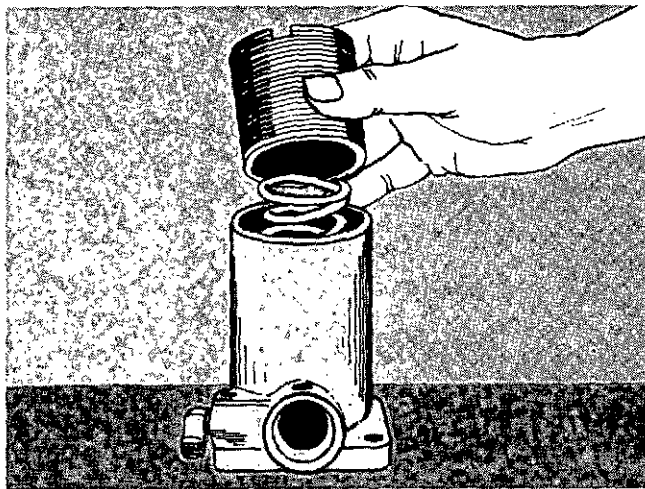

Fig. 4-32. Install The Spring Retainer.
14. With the notched end of the retainer up, install the spring retainer in the housing, Fig. 4-32.